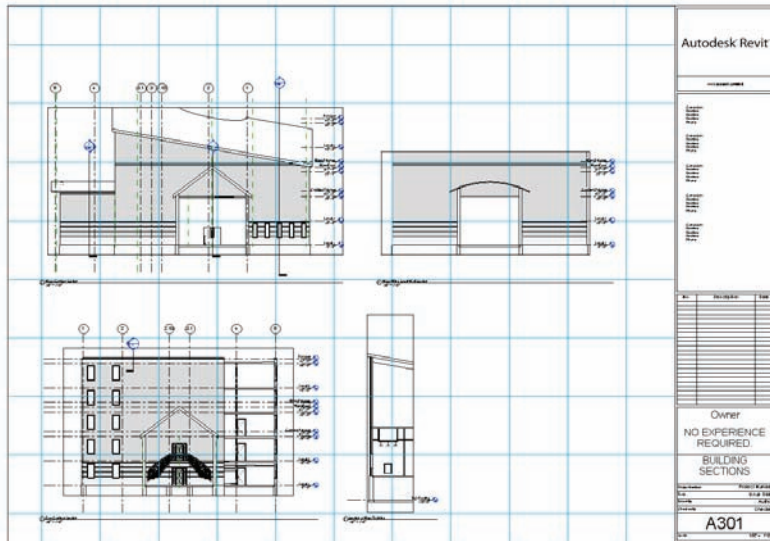

FIGURE 14.9 The completed sheet A301
If you feel as though you have enough experience creating a sheet and adding views, go ahead and proceed on your own. Your new sheet will be numbered A301 and be called Building Sections, and you'll add the views East Corridor Section, West Corridor Section, Section at West Training, and West Wing South Wall Section. Your sheet should look like Figure 14.9.
11. Drag the section called West Wing South Wall Section to the right of the West Corridor Section and directly above the Section at West Training. The alignment lines allow you to accurately place the section. After you have these four sections in place, your sheet A301 should look like Figure 14.9.